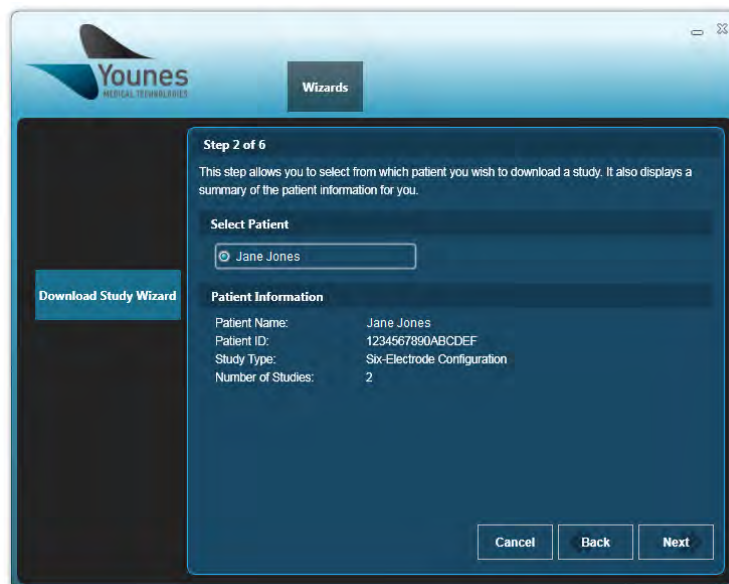

Figure 73 – Windows PC Prodigy Application Patient Information Screen (Download Study Wizard)
7. As shown in Figure 73, a list of patients on the device will be displayed. Select the patient that has a study you wish to download, and click “Next”.